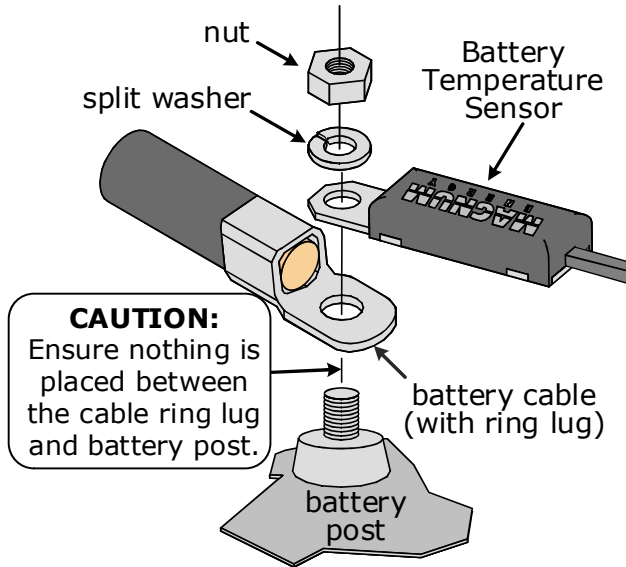

Figure 2-7, Battery Hardware Installation
Refer to Figures 2-7 and 2-8 on the next page to connect the DC cables and to stack the hardware correctly. Tighten the terminal connections from 10 to 12 ft lbf (13.6 to 16.3 N-m).
1. Attach the ring terminal end of the Battery Temperature Sensor to the negative battery terminal; see Figure 2-7 for proper connection to the battery terminal.
6. Ensure the DC wire connections (on the batteries, inverter, and DC circuit breaker/fuse lugs) are flush on the surface of the DC terminals, and the hardware (lock washer and nut) used to hold these connections are stacked correctly (see Figures 2-7 & 2-8). Verify all DC connections are torqued from 10 to 12 ft lbf (13.6 to 16.3 N-m).